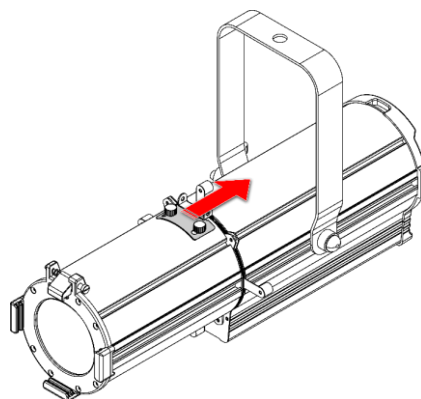

Fig. 19
- 06) Slide the **gobo slot cover plate (10)** towards the **gobo holder (08)** (see Fig. 19).